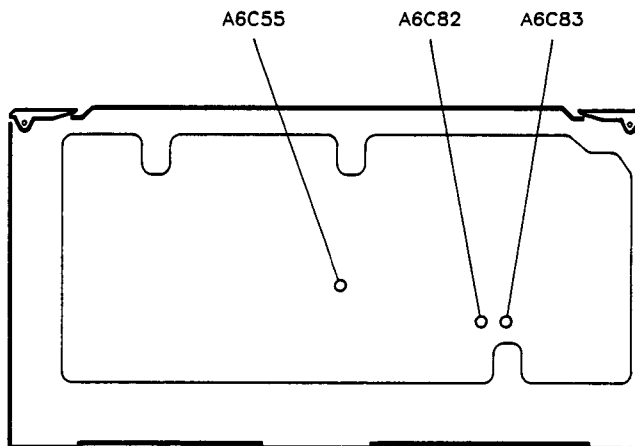

Figure 3-8. 200 MHz Loop VCO Tune and Sampler Match Adjustment Locations
6. Adjust A6C55 (see figure 3-8) to center the "needle" on the display.
9. Adjust A6C82 and A6C83 (figure 3-8) for best overall sampler match.